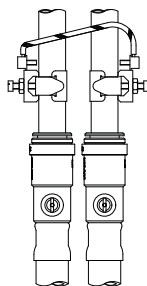

Fig. 10
- 4.15 **Adjacent pipes:** Adjacent suction and delivery pipes should be fitted with earthing clamps to BS 951 and connected with earthing wire size 4 mm2 (Fig. 10).